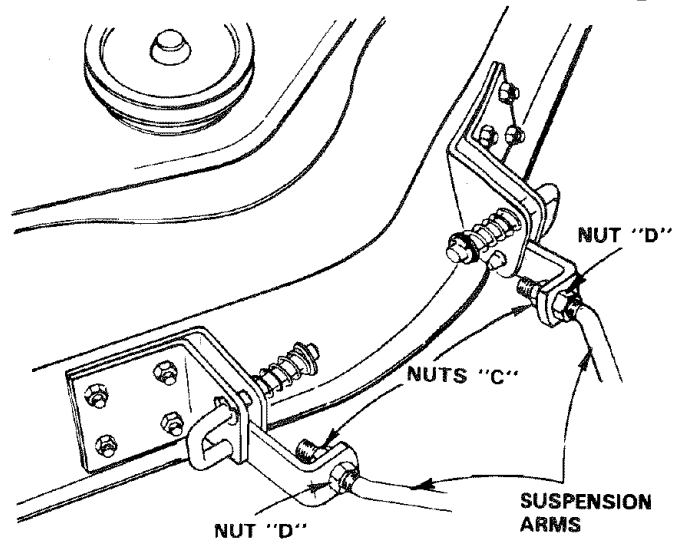

FIGURE 45
- To raise front of mower loosen nuts "D". Screw nuts "C" up onto suspension arms (Fig. 45). NOTE: SCREW NUTS "C" ON BOTH SUSPENSION ARMS THE SAME NUMBER OF TURNS SO MOWER WILL REMAIN LEVEL. Tighten nuts "D" securely.